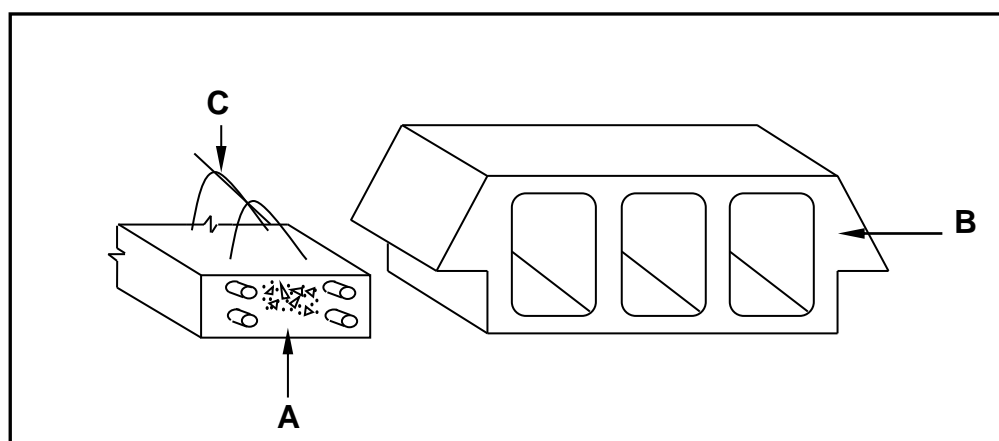

FIGURE 2.12
2.12 FIGURE 2.12 below is a sketch of components of a suspended floor.